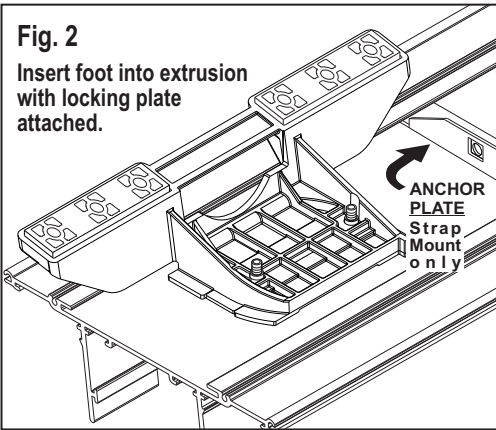

Fig. 3
2. Flip the lightbar upside-down, install an anchor plate onto the extrusion and place a mounting foot onto the extrusion (Fig. 2). Rotate the foot 90° counter-clockwise (Fig. 3) so that both sides slide under the lip in the extrusion.